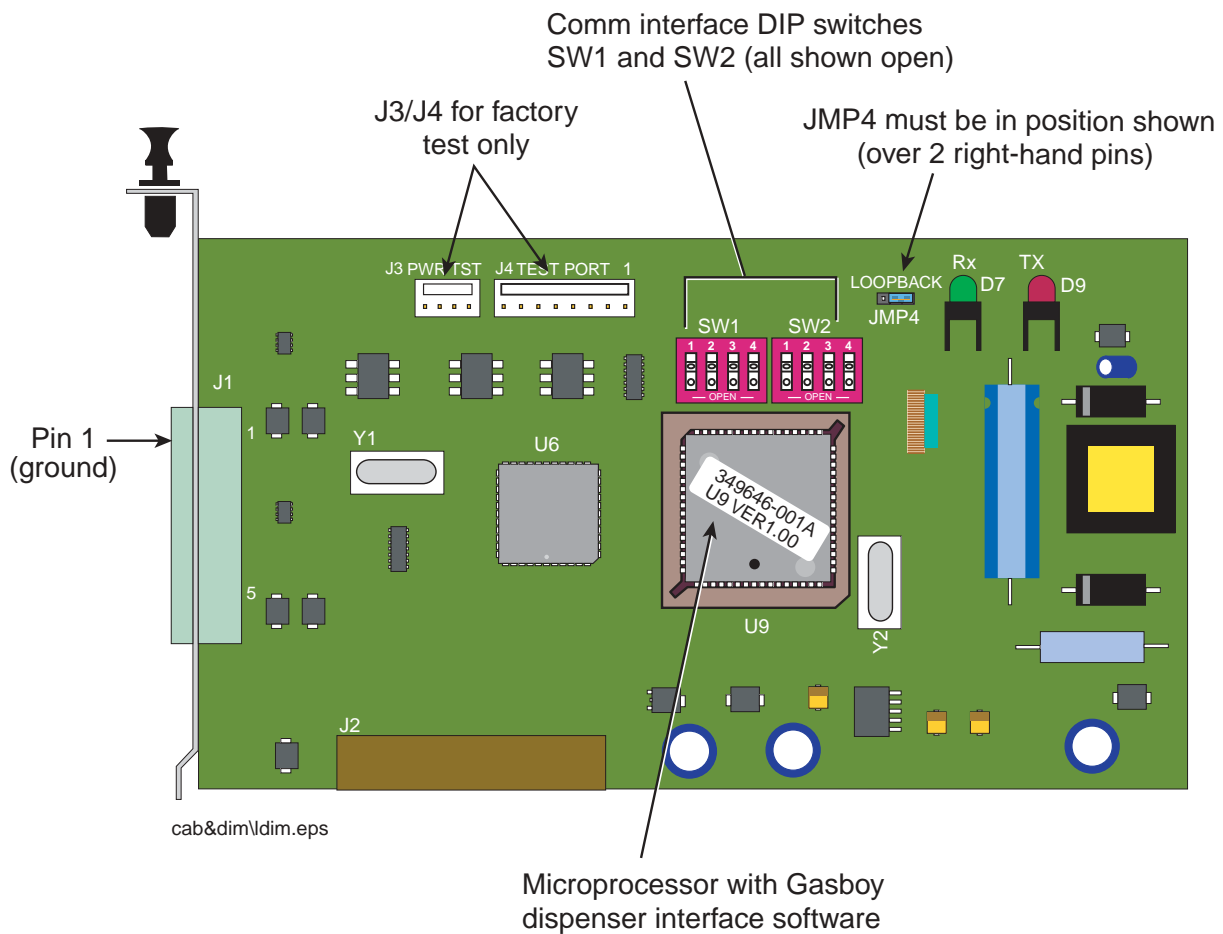

Figure 1. Gasboy Interface Module
Get the Gasboy Interface Module (see Figure 1) and perform the following setup verifications.
1. Make sure the JMP4 jumper is in the position shown in Figure 1 (over the 2 right-hand pins). Important! if this jumper is over the two left-hand pins, the IM will be disabled.